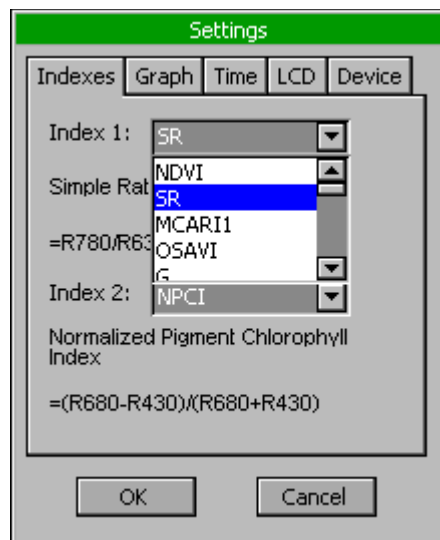

Fig. 10 Index selection
- **Indexes** - Select indexes to be calculated and displayed on the main screen (Fig. 10).